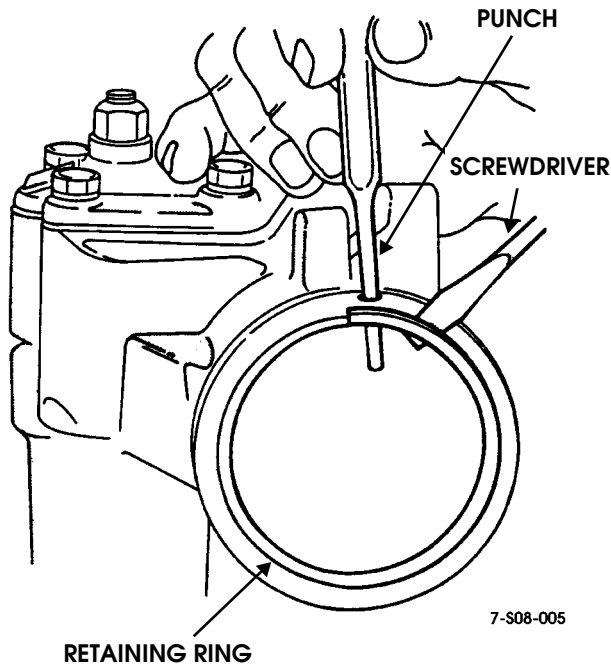

Figure 8-31: End Plug Retaining Ring Removal
1. Rotate end plug retaining ring until one end is under small access hole in housing (Figure 8-31).
2. Unseat end plug retaining ring with small pin punch and screwdriver (Figure 8-31). Insert punch through access hole in housing as shown.